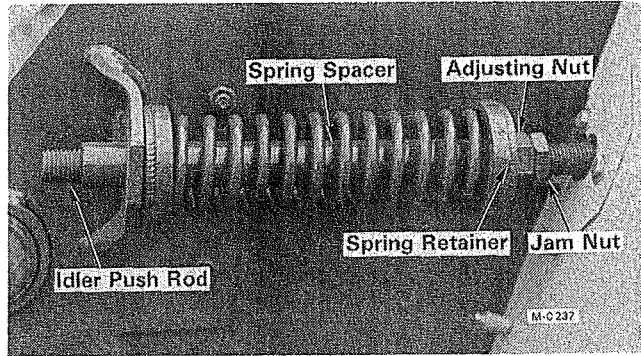

Figure 29
1. With the Shredder running, look at the idler push rod, Figure 29, to see if there is any back and forth movement. If there is, the belt tension needs to be adjusted.
2. Loosen the jam nut and tighten the adjusting nut one full turn, see Figure 29.
11. Turn the idler spring adjustment nut clockwise until the spring retainer is up to, but not tight against, the spring spacer, see Figure 29.
- If the idler pulley is out of alignment, loosen the idler spring jam nut and back off the adjusting nut to relieve all idler spring tension, see Figure 29.
9. Turn the idler spring adjustment nut clockwise until the spring retainer is up to, but not tight against, the spring spacer, see Figure 29 page 18.